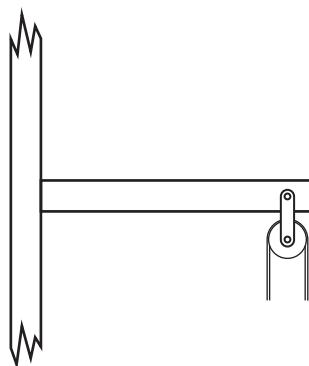

**Fig. 6**
- (iii) Fig. 6 shows a frame for a carport. The roof is to be covered using six uncut corrugated plastic sheets 2600 mm × 800 mm.
Draw on Fig. 6 to show **two** of the corrugated plastic sheets correctly positioned on the roof frame.